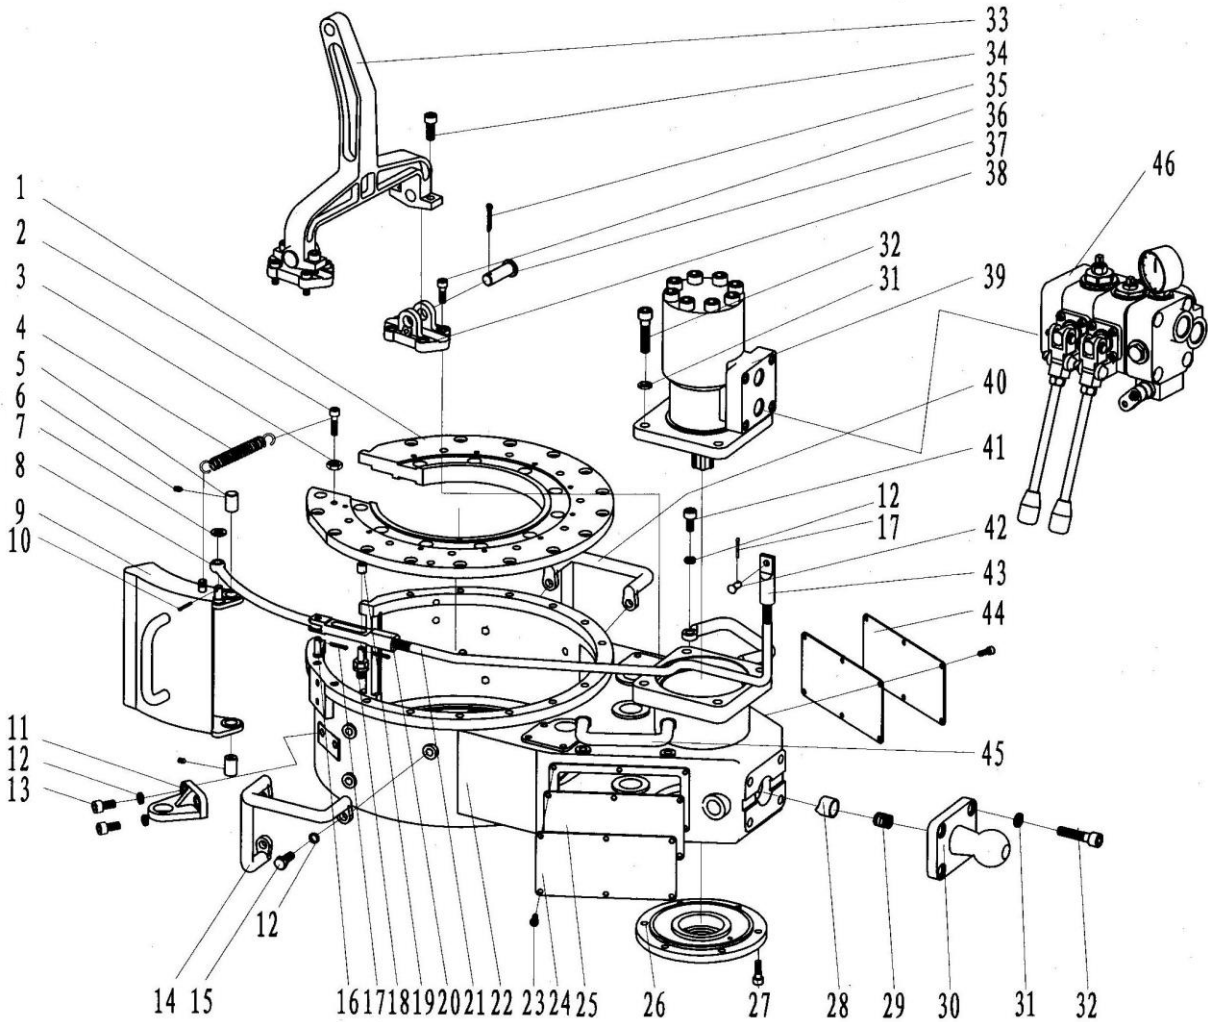

Fig.20
- 11.3 Shell and accessory and parts list (Fig.20, Table 7)
11.3 Shell and accessory and parts list (Fig.20, Table 7)